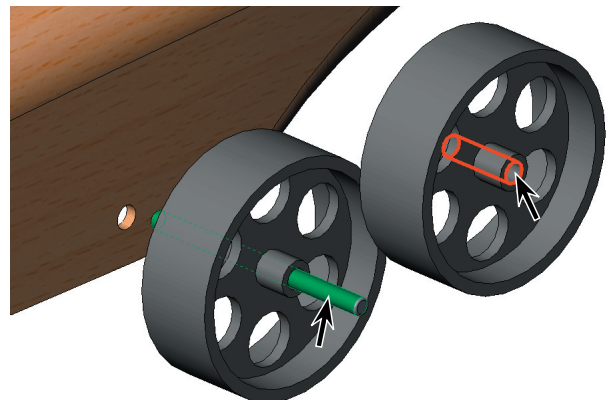

Fig. 11
Step 6. Click **cylindrical face of axle** and **cylindrical inside face of the hole in other wheel**, **Fig. 11**.